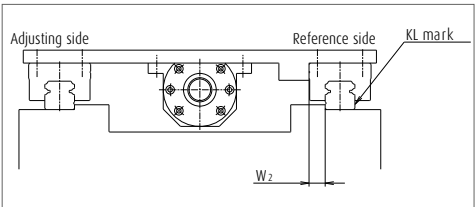

Fig. 2 Most common setting of the reference side rail
- When the datum surfaces of the reference side rail and slides are pressed to their mounting datum surfaces respectively, the variation of distance (mounting width W_2 or W_3) between the datum surfaces of the rails and that of the slides must be a minimum and therefore, it is specified as the standard. (Figs. 2 and 3)